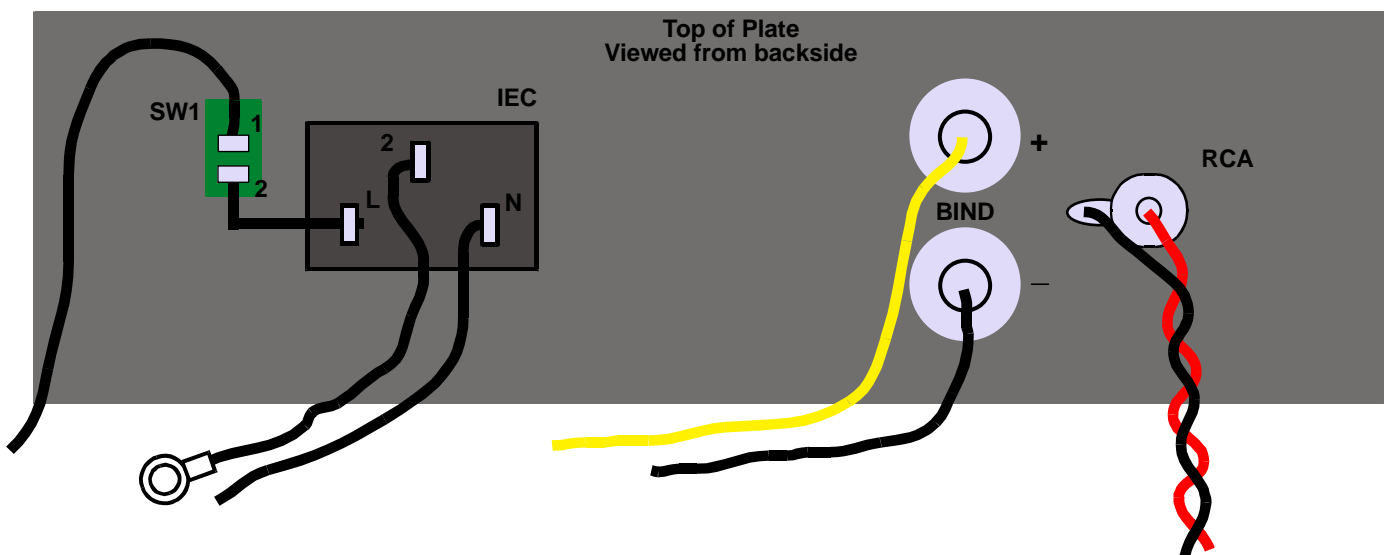

Figure 7
9) This is the final phase of the assembly process. Refer to figures 7 and 8 for this phase.
Locate the two black rear panels. Note these panels are mirror images of each other. Mount the power switches SW1 and IEC connectors to these rear panels as shown in figure 7.
Cut a piece of black hookup wire approximately 4 inches in length and solder a terminal ring to one end and then solder the other end of the loose wire to terminal 2 of the IEC connector as shown in figure 7.